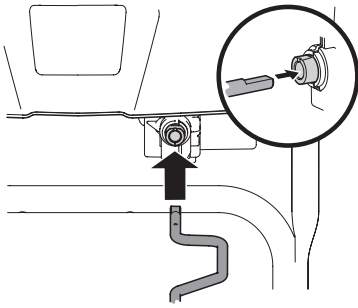

Figure 2-32
5. Insert other end of chute control rod into coupler below handle panel. Make sure to line up flat end of rod and flat end of coupler. You may need to rotate rod around until these two surfaces line up. See Figure 2-32 inset.